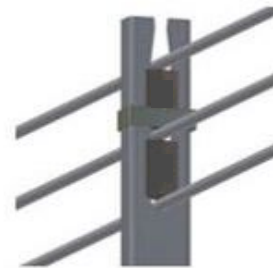

Figure 11
5. Place the top cable on top of the spacer (See Figure 11).